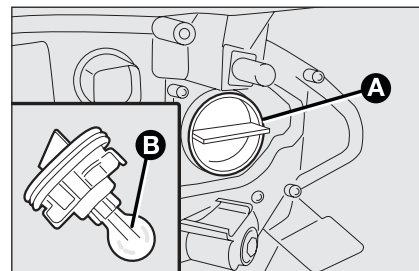

fig. 26
- remove the bulb **B**-fig. 26 and replace it;